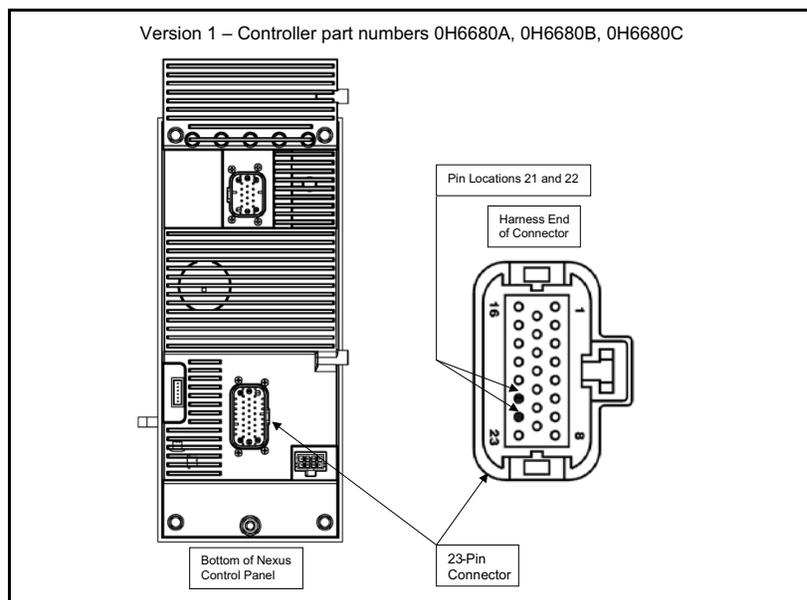

Figure 2. Bottom (underside) of Nexus Controller - Version #1
1. Bottom (underside) of Nexus Controller for Steps 1-7. Unplug the 23-pin connector from the Nexus control panel by carefully releasing the latch on the side of the connector, Figure 2.
7. Install the 23-pin connector back into the connector on the back of the control panel. See Figure 2.